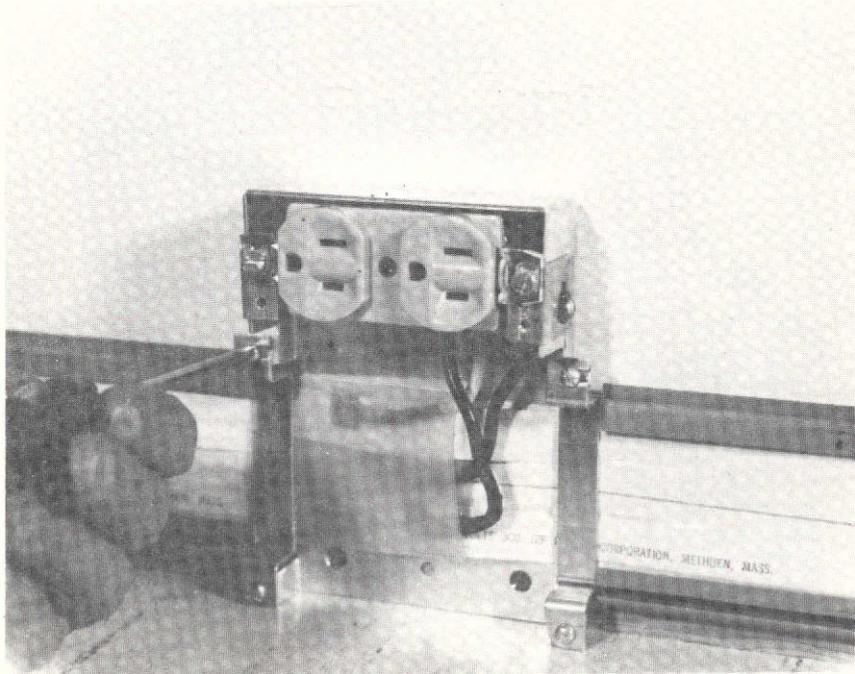

Figure 13. Securing Cable, Mylar Wrap, and Connections in Box
6. Install cable hold-down straps. This is done by rotating in position and tightening strap screws as in Figure 13.